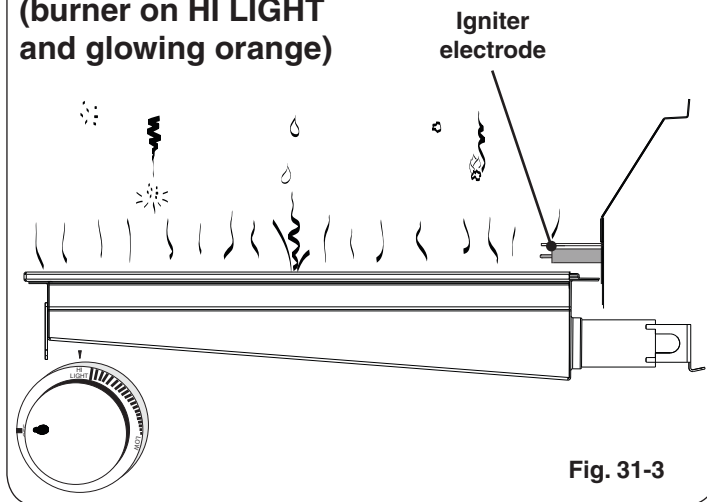

Fig. 31-3
- **DO NOT place food on the cooking grid until the infrared burner glows orange (Fig. 31-3).** Drippings are heated and evaporate instead of sticking to and impairing burner function.